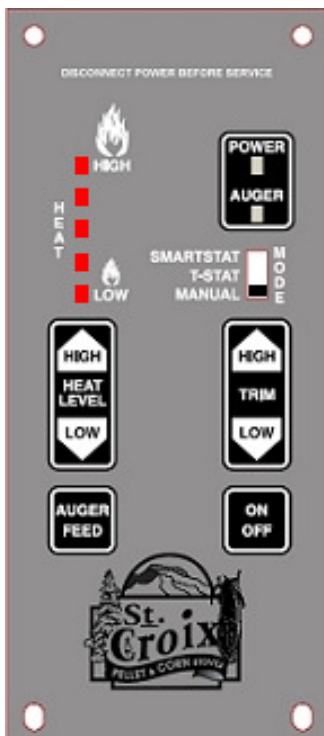

Figure 20
- 1 - **Program 1.** The Cycle Time is 8.5 seconds. This program will be the default program when the furnace is first plugged in. **This program is for use with Pellets, Corn, Wheat, Rye, Cherry Pits & Distillers Grain Pellets.** (See figure 20 on page 37)
- 2 - **Program 2.** The Cycle Time is 7.5 seconds. **This program is for use with Pellets, Corn & Cherry Pits.** (See figure 20 on page 37)
- 3 - **Program 3.** The Cycle Time is 6.5 seconds. **This program is for use with Pellets & Cherry Pits.** (See figure 20 on page 37)
- 4 - **Program 4.** The Cycle Time is 5.5 seconds. **This program is for use with Pellets & Cherry Pits.** (See figure 20 on page 37)
To change the program the furnace must be in the OFF position, the furnace must be cooled down so the Proof of Fire switch is open and the Thermostat slide switch must be in the Manual mode. (See figure 20)